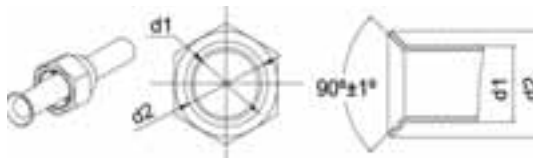

Fig. 4.9
- (1). Cut the connection pipe with pipe cutter and remove the burrs.
- (2). Hold the pipe downward to prevent cuttings from entering the pipe.
- (3). Remove the flare nut from the stop valve on the outdoor unit. Get another flare nut from the accessory bag for the indoor unit. Insert pipe through flare nuts. Flare the connection with a flaring tool
- (4). Check if the flare part is spread evenly and there are no cracks (see Fig. 4.9).